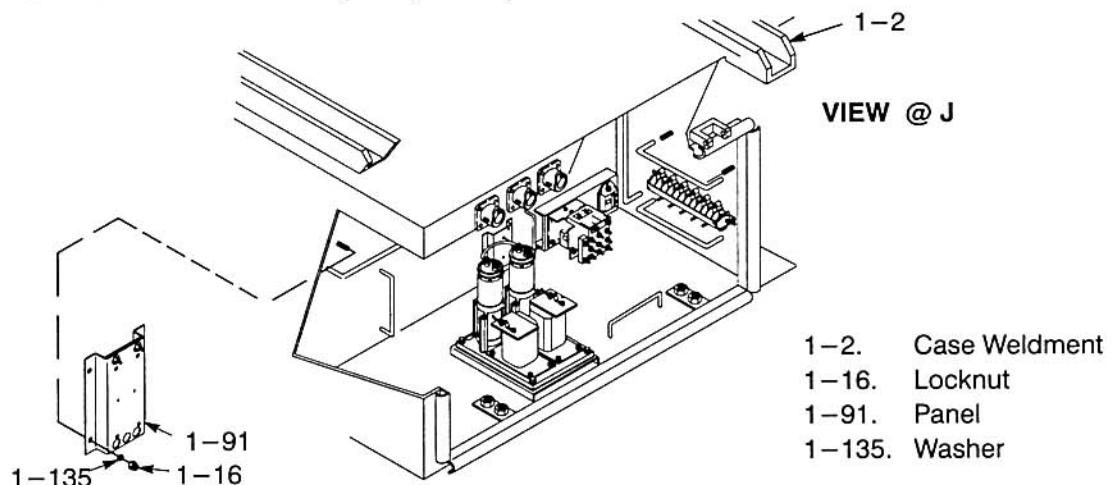

Figure 7-93 Remove/Install Voltage Attenuation Module 17FM559A1
- Remove/install hardware (1-16, 1-135, Figure 7-93) which secures module (1-91) to the case weldment (1-2). Torque hardware to 74–83 in. lbs.